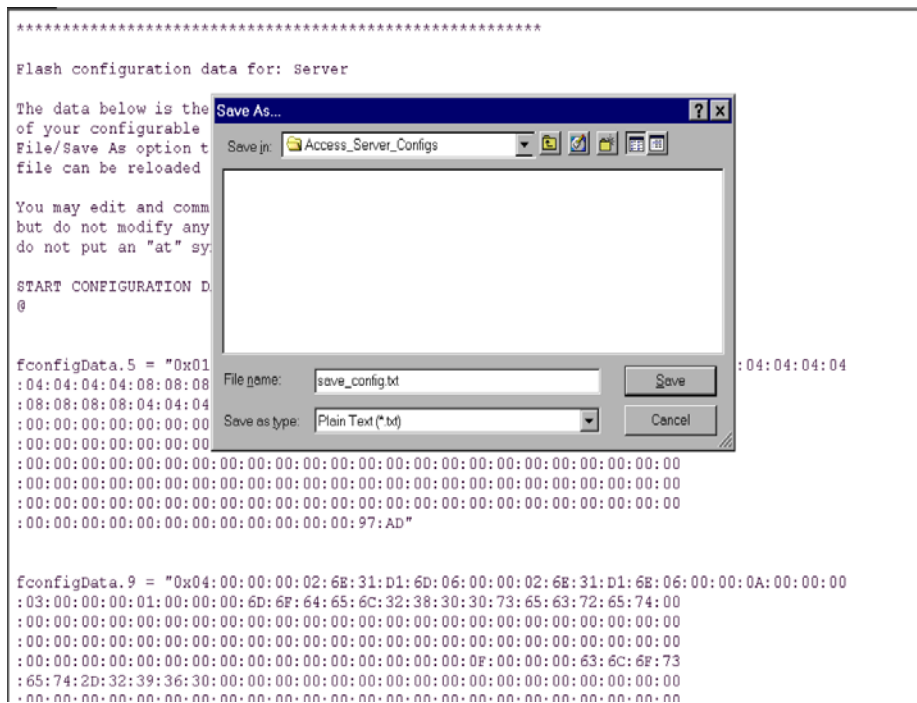

Figure 39. Saving the access server flash memory configuration data as a text file
- To save the displayed data as a text file, select the **Save** option on your browser (see figure 39). For example, under Netscape, select **File > Save As**. A dialog box will display enabling you to save the contents of the export parameters to a text file. Select the location where you want the file stored, type a file name, and click **Save**.